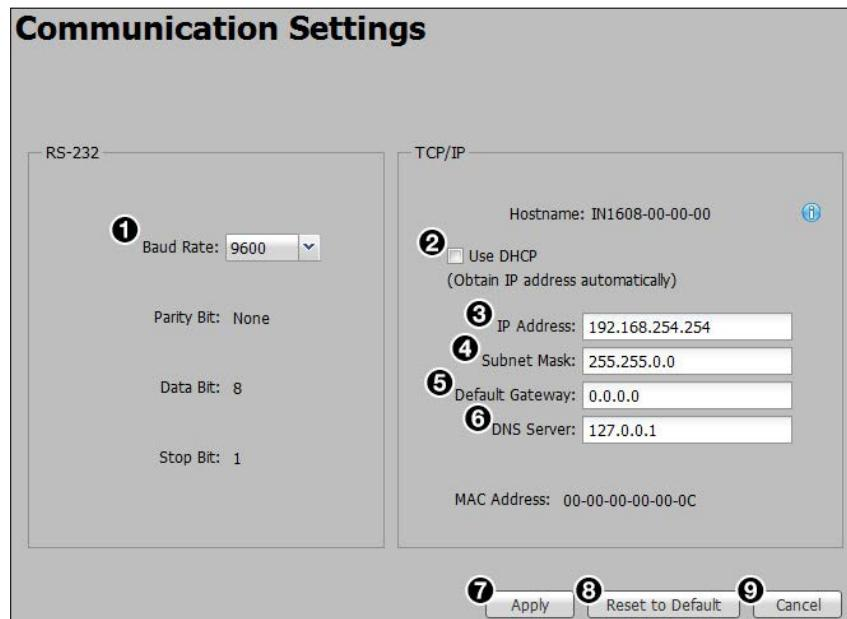

Figure 85. Communication Settings Page
- From the **Baud Rate** drop-down menu (see figure 85, ①), select the appropriate baud rate.
- Click the **Apply** button (7).